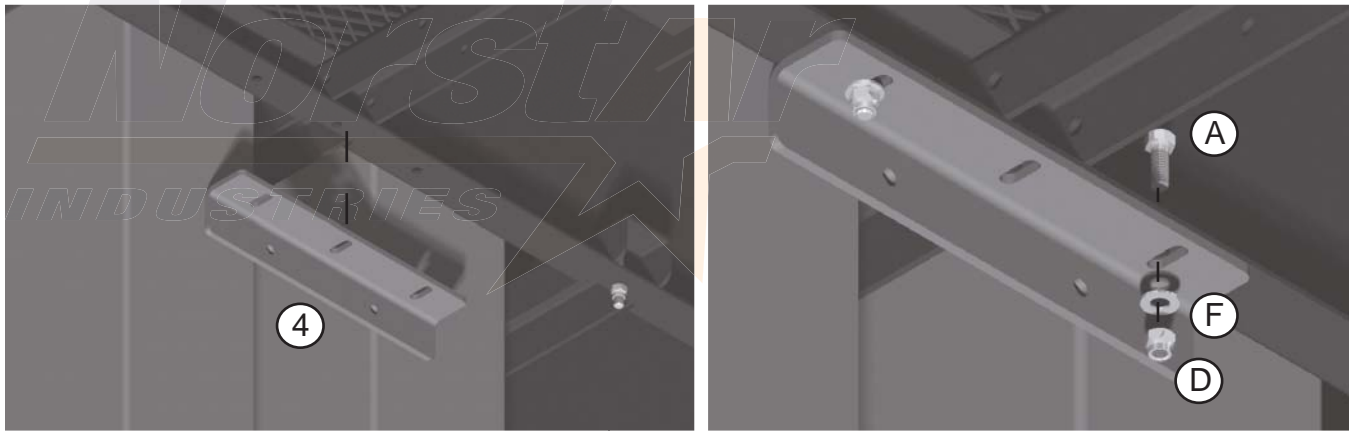

Figure 38
Locate two (2) Platform Clamp Plates and place them, on opposite sides of the Trunking, against the Trunking and Platform (see **Figure 38, left**). Align the slots on the Platform Clamping Plates with the holes on the Platform Assembly. Using two (2) 3/8" x 1" Bolts, 3/8" Flatwashers and 3/8" Nylon locknuts (per side), secure the Platform Clamping Plates to the Platform (see **Figure 38, right**).